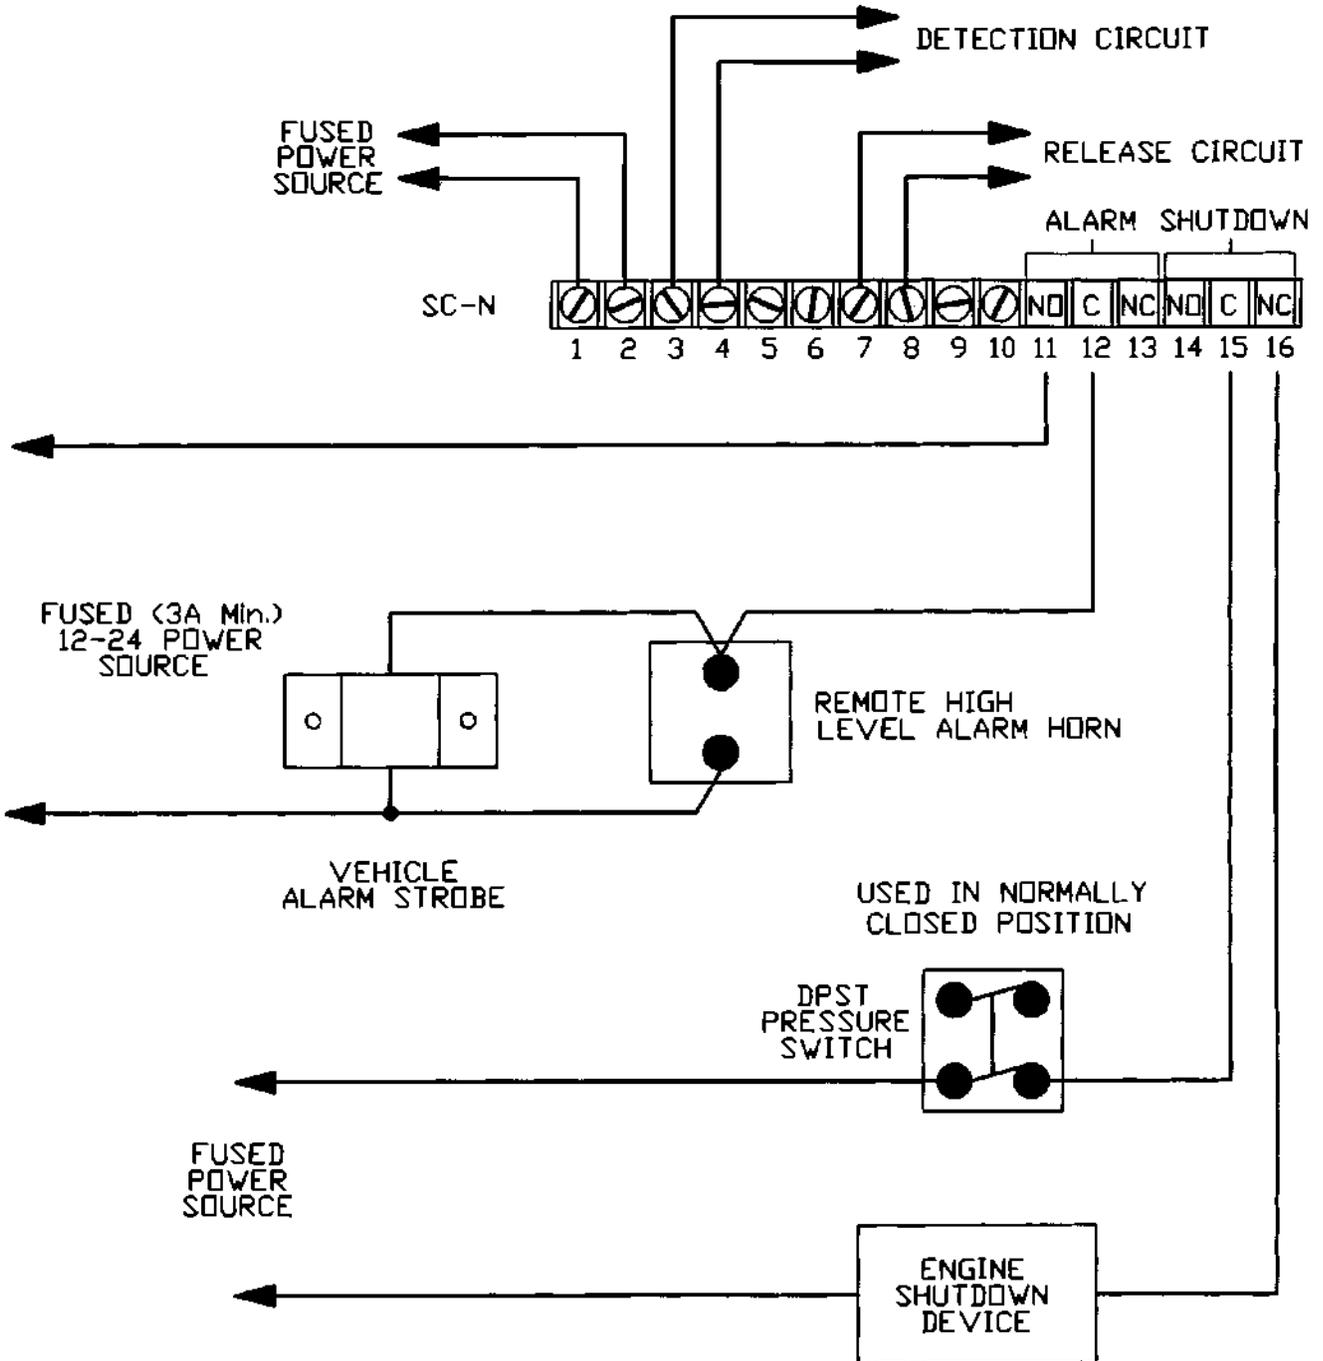

FIGURE 3
- CHECKFIRE SC-N Wiring Diagrams. See Figures 3 and 4.